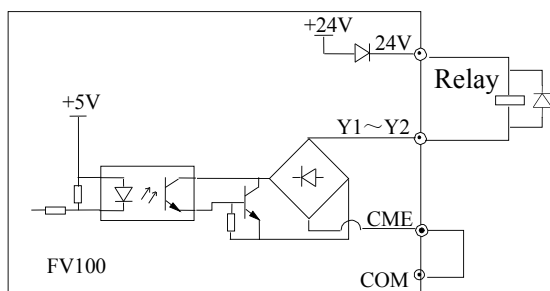
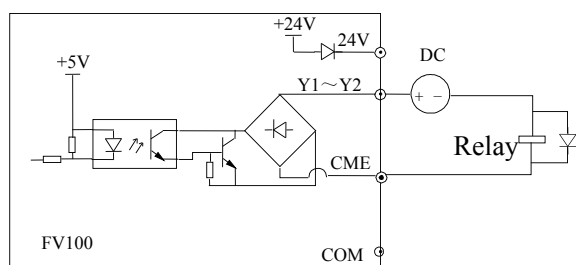

Fig 4-13 Wiring method 1 of multi-function
Fig 4-14 Wiring method 2 of multi-function output terminal
1. Multi-function output terminal Y1, Y2 can use the internal 24 power supply, the wiring is as shown in Fig.4-13
2. Multi-function output terminal Y1, Y2 can use the external 24 power supply too, the wiring is as shown in Fig.4-14.
5. The resistors R in Fig. 4-13 and Fig.4-14 should be removed for 24V input relays, and the resistance of R should be selected according the parameters of relay for non-24V relay.